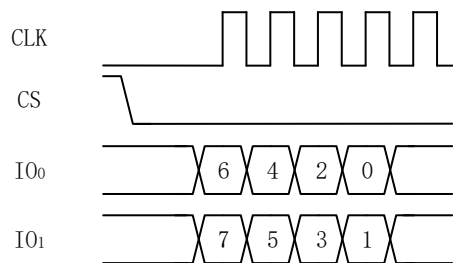

Figure 6 Instruction Sending Sequence in Dual-line Mode
2. To send instructions in the Dual-SPI mode, the IAT bit of control register 3 (QSPI\_CTRL3) needs to be configured to 0x2 and the FRF bit of control register 1 (QSPI\_CTRL1) needs to be configured to 0x1. The instruction sending sequence in dual-line mode is shown in Figure 6 Instruction Sending Sequence in Dual-line Mode.